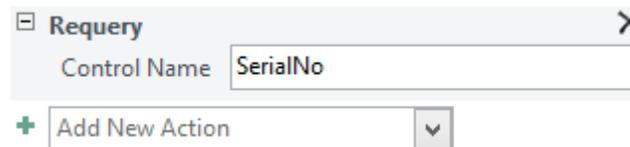

Figure 33: Control Name for Requery Action
3. Create the Macro: In the *Add New Action* list, click the arrow and scroll down to select “Requery”. In the *Control Name* field below, type “SerialNo” as shown in Figure 33. Close the window and save the macro when prompted. Access does not allow you to provide a name for the macro so it is saved under the default name.